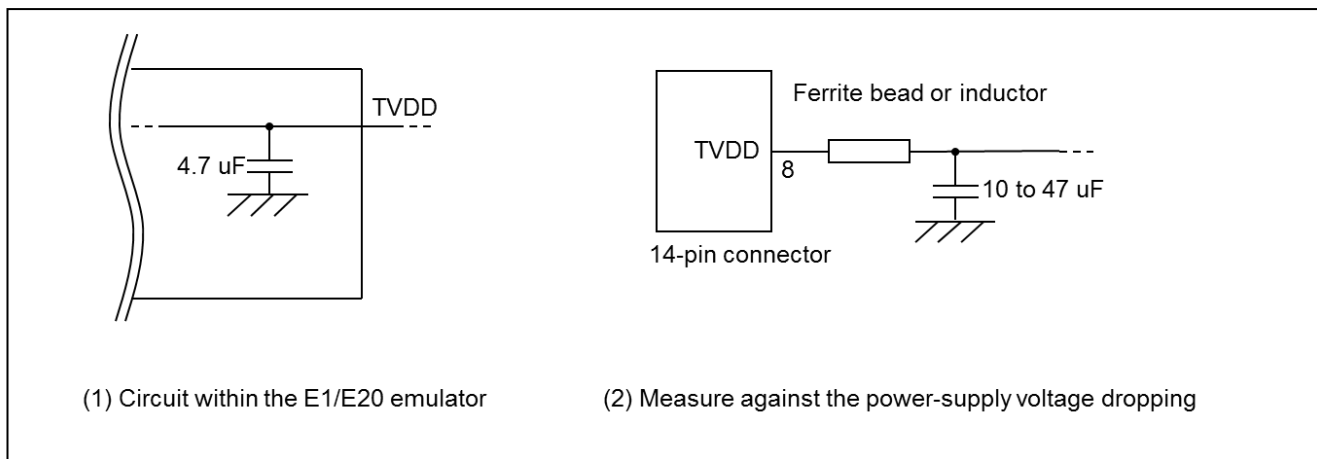

Figure 2-8 Circuit Configuration for Hot Plug-in
Pin 8 of the E1 emulator is connected to a 4.7- μ F capacitor as shown in (1) in Figure2-8, so hot plug-in connection of the emulator may lead to a momentary drop in the power-supply voltage on the user system. This might cause the MCU to be reset.
As shown in (2) in Figure2-8, this effect can be reduced by placing a ferrite bead (or inductor) and relatively large capacitor with low equivalent series resistance near the TVDD line of the connector for connection of the emulator. Note that this measure will not completely eliminate the voltage drop. Note that hot plug-in connection is only for use during debugging, and a separately sold hot plug-in adapter is necessary to use this function otherwise.